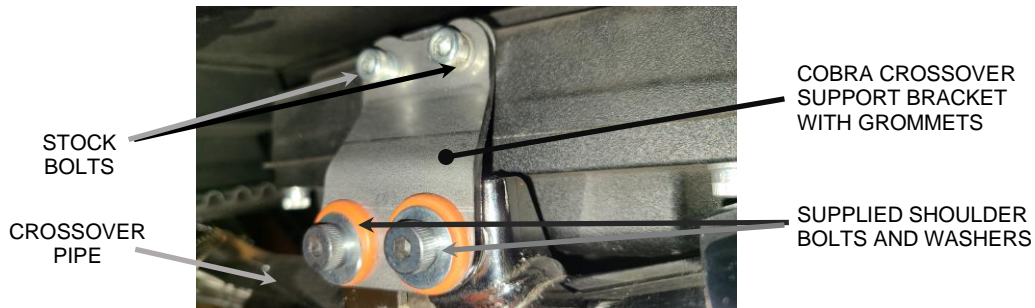

FIGURE 7
- Apply blue Loctite on the (2) stock allen bolts, install them along with (2) stock washers into the mount bracket upper holes and transmission, lightly snug the bolts but **DO NOT TIGHTEN** at this time, see **Figure 7**. Adjust the crossover pipe fore and aft so the mount with grommets rest flush against the rear of the transmission case. **IMPORTANT: DO NOT** force the crossover pipe forward or backward or up and down to get it into position. If a lot of force is needed to align the crossover pipe and support bracket then adjust the rear headpipe collector assembly until it will align with only enough force to counter act the weight of the left side of the crossover assembly. Also, make sure the crossover pipe has clearance all around and does not make contact with the transmission pan. Adjust as needed while bolts are loose.
15. Install the mufflers onto the crossover pipe assembly and insert the (2) stock 5/16-inch bolts into each rear muffler mount the same as stock. **Do not tighten** clamps or bolts at this time.
16. Make sure the front headpipe, rear headpipe collector assembly, left rear crossover pipe, and mufflers are aligned properly and tighten the (2) crossover support bracket shoulder bolts, then proceed to tighten the (2) previously installed stock allen bolts in the transmission case to factory specification. See **FIGURE 7**.